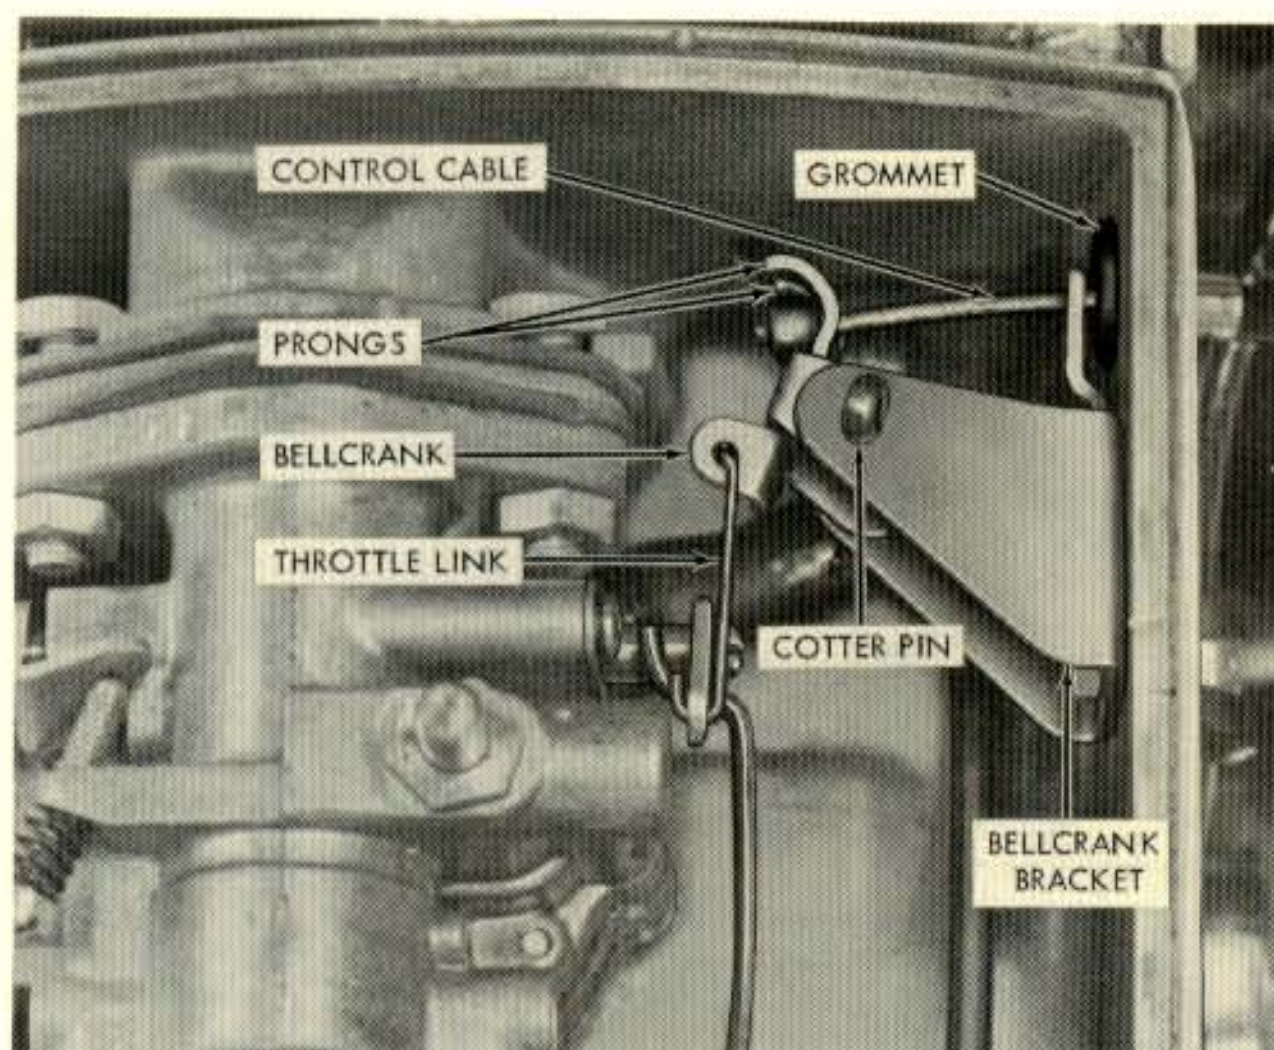

Figure 10. Bellcrank Assembly
8. Assemble the Bellcrank on the Bellcrank Bracket with the Cotter Pin (see Figure 10). Spread the ends of the Cotter Pin apart to hold the Bellcrank in place on the Bracket.
11. Feed the end of the control cable through the Special Grommet (P/N 57436). Insert the end of the control cable through the 1/2-inch hole drilled in the airbox and hook the cable between the two prongs on the Bellcrank. Slide the Special Grommet toward the end of the control cable and mount the Grommet on the 1/2-inch hole as shown in Figure 10.